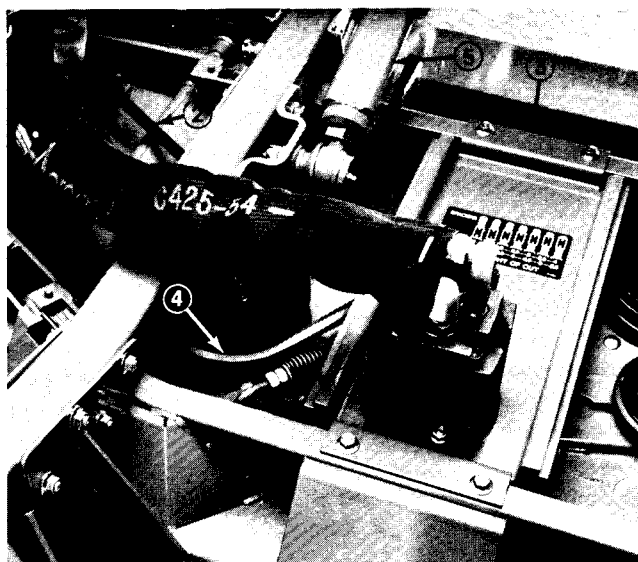

Figure 23
2. Remove belt covers and relieve belt tension on all belts (Fig. 23).
3. Remove flange head screws securing gearbox plate and separate plate and drive motor assembly from the cutting unit (Fig. 23). Be careful not to bend, twist, kink or damage flexible hydraulic lines.
4. Remove hex head screws and flange locknuts securing each lift arm to the castor arm and separate from the arm (Fig. 23).